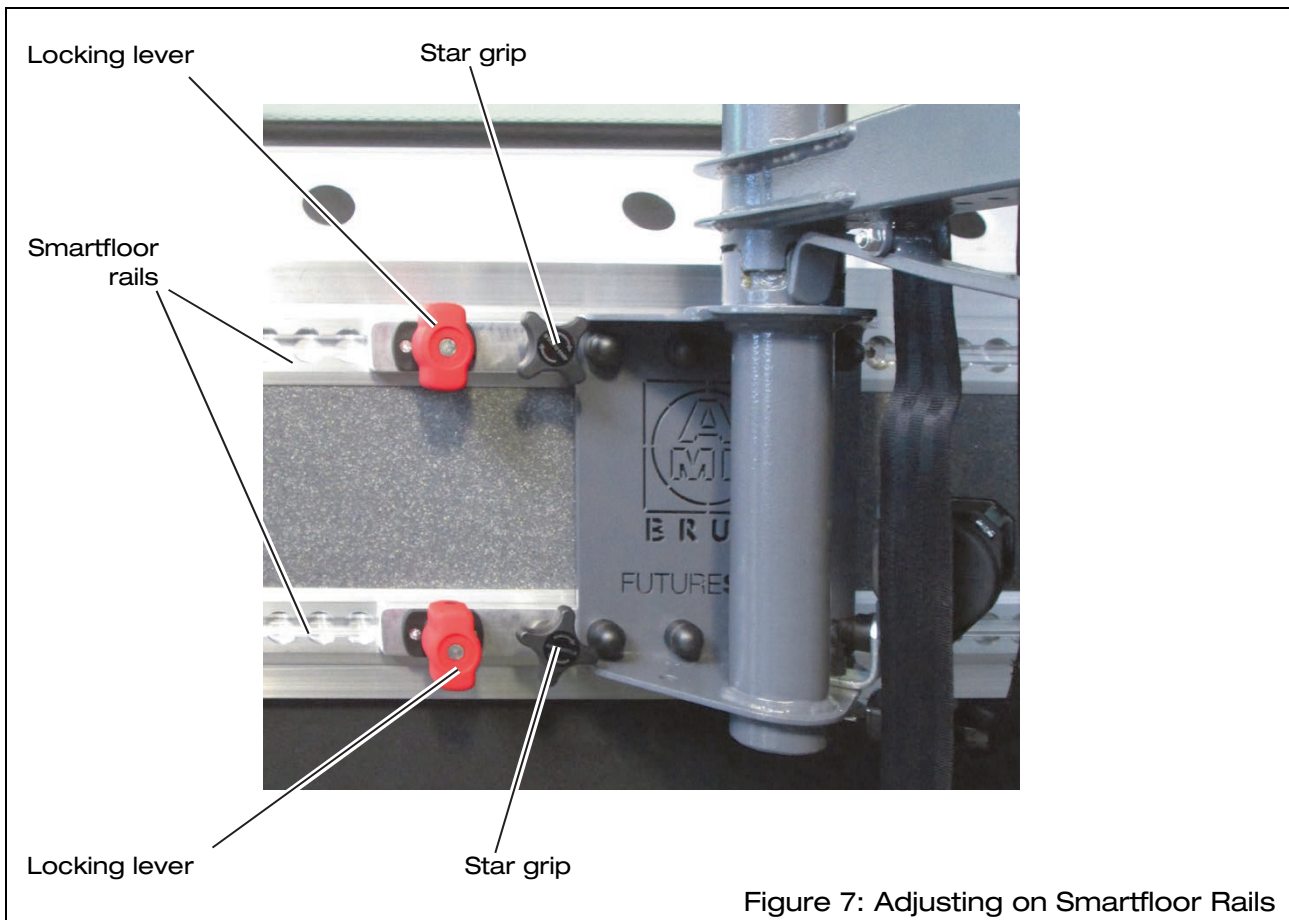

Figure 7: Adjusting on Smartfloor Rails
- ⇒ Turn the red locking levers to the vertical position (see Figure 7).